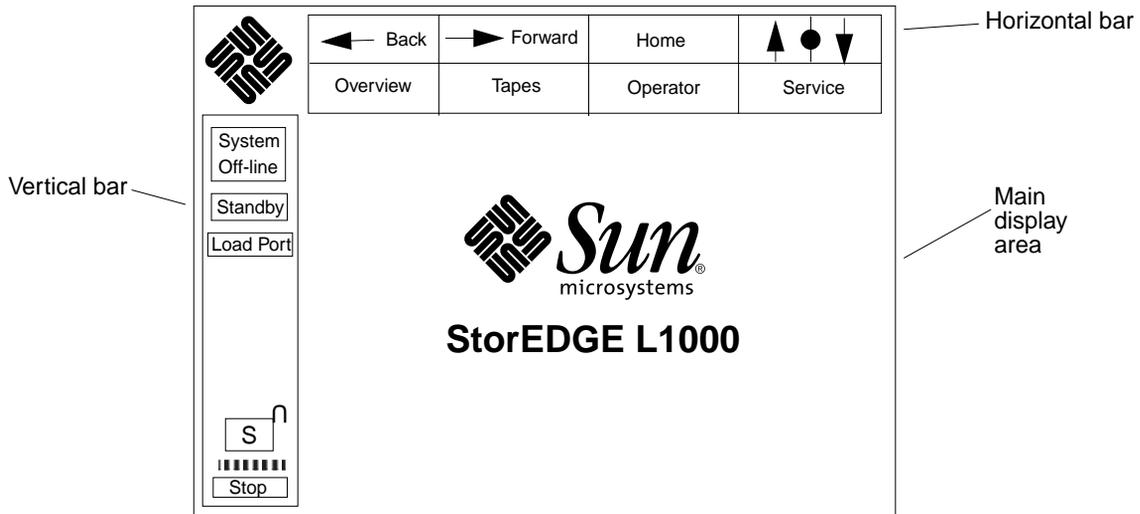

FIGURE 3-1 Control Panel Display—Initial Screen
At start up, the following screen appears in the control panel display (FIGURE 3-1).
These components are identified in FIGURE 3-1 as well as in the sections that follow.
- *Home button*—Returns you to the initial control panel screen (FIGURE 3-1).
The main display area consists of four tabbed screens (FIGURE 3-1) which contain the controls that issue commands to the library: